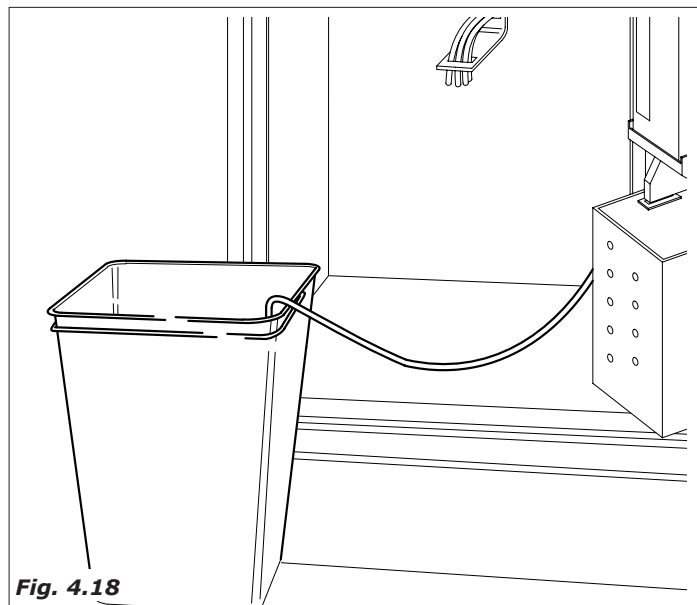

Fig. 4.18
- Position the reservoir drain hose in the liquid waste bin, in the (Fig.4.18).